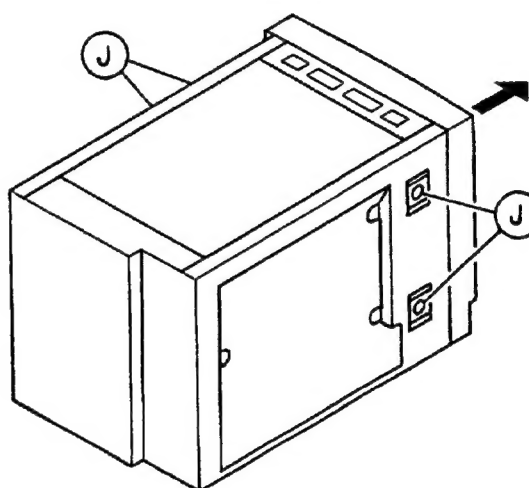

Fig. 9
- (1) Remove the top cover.
- (2) Remove the 4 screws ① shown in Fig. 9.
- (3) Remove the escutcheon in the direction of the arrow.